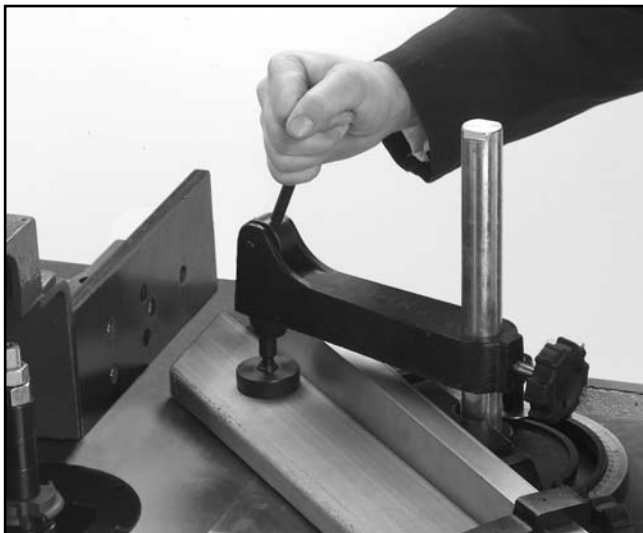

Figure 47. Locking down the miter clamp.
4. Clamp the workpiece to the table with the miter clamp as shown in **Figure 47**.